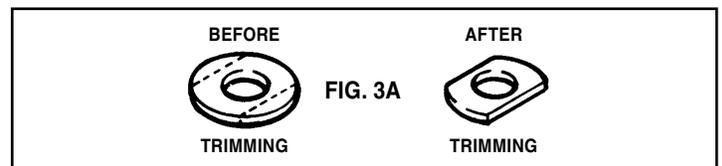

FIG. 3A
- Before final assembly, note that the upper track mounting plate, by itself, is applicable to track with code 70 or 66 rail. For code 55 rail, use included washers between upper track plate and field plate divider. Narrow these washers as shown in Fig. 3A so they will fit between field plates and rest flatly on field plate divider. For rail sizes smaller than code 55, see "Assembly Modifications".